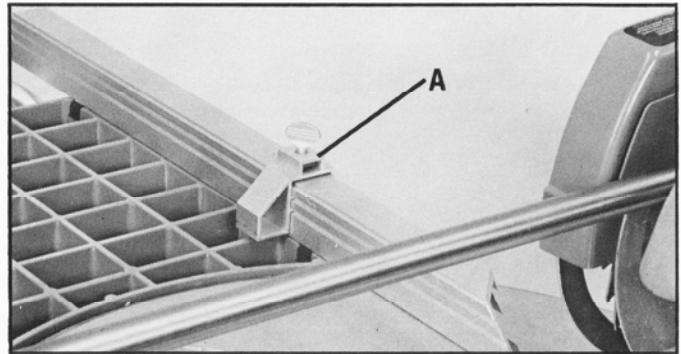

Fig. 12
An adjustable stop (A) Fig. 12, is supplied which allows repetitive cutting to be done more easily. It can be assembled to the right fence or the left fence as shown in Fig. 12.